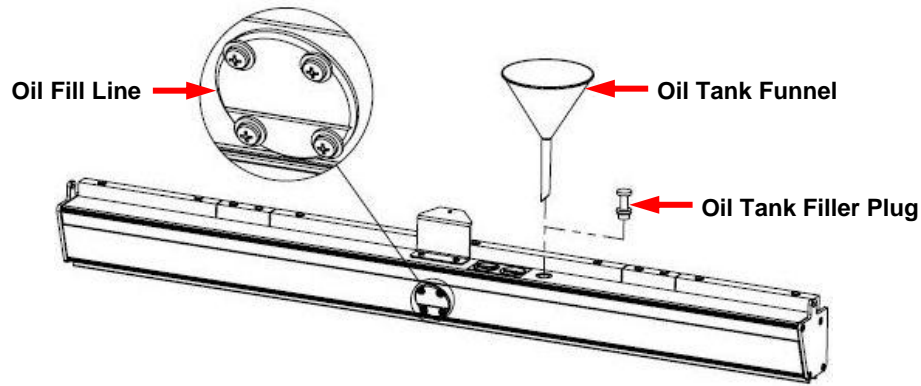

Figure 3- 44
2. Remove the plug from the top of the oil tank as shown in Figure 3- 44 on the next page.
4. SLOWLY pour lane oil into the tank until the oil level has reached the oil fill line, as shown in Figure 3- 44. DO NOT OVERFILL!